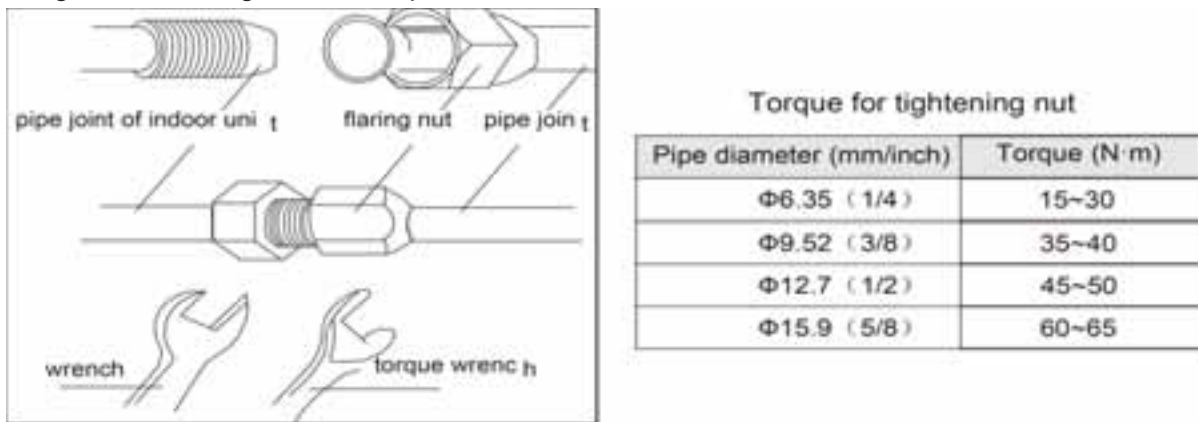

Fig.4.2
- (1) Align the flaring port of copper pipe with the center of screwed joint and then tighten the flaring nut by hand as shown in Fig. 4.2.
- (2) Tighten the flaring nut with torque wrench.